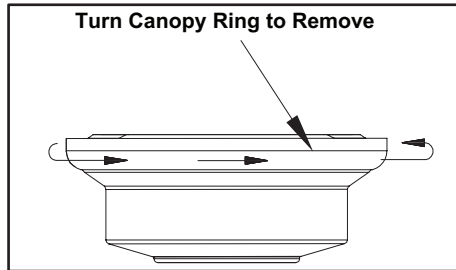

Figure 5
1. Remove the canopy ring from the canopy by turning the ring clockwise until it unlocks. (Figure 5)